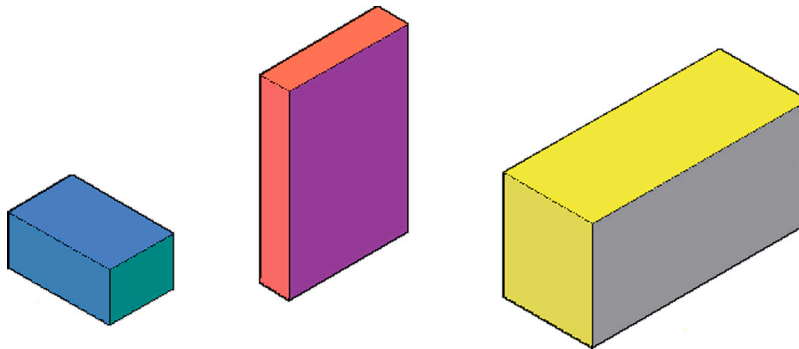

FIGURE 29.9 Blocks for cameras.
Step 1. First of all, create a few random blocks of any size, and then shade and color them while in SW Isometric, as seen in Fig. 29.9.